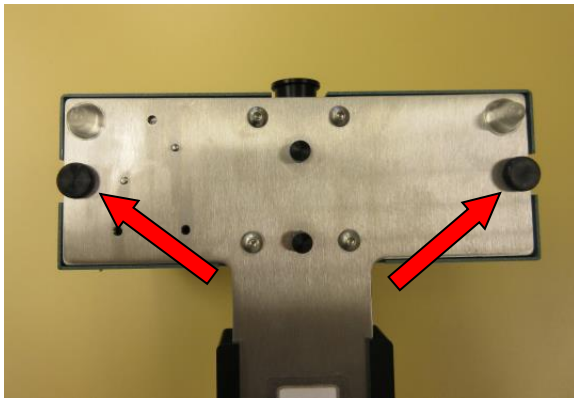

Figure 5.1.1 Cover screws
- Ensure air and power supply has been disconnected from the unit prior to removing the cover. Remove the two thumb screws securing the cover to the base plate. Lift cover out of the way. *Figure 5.1.1*